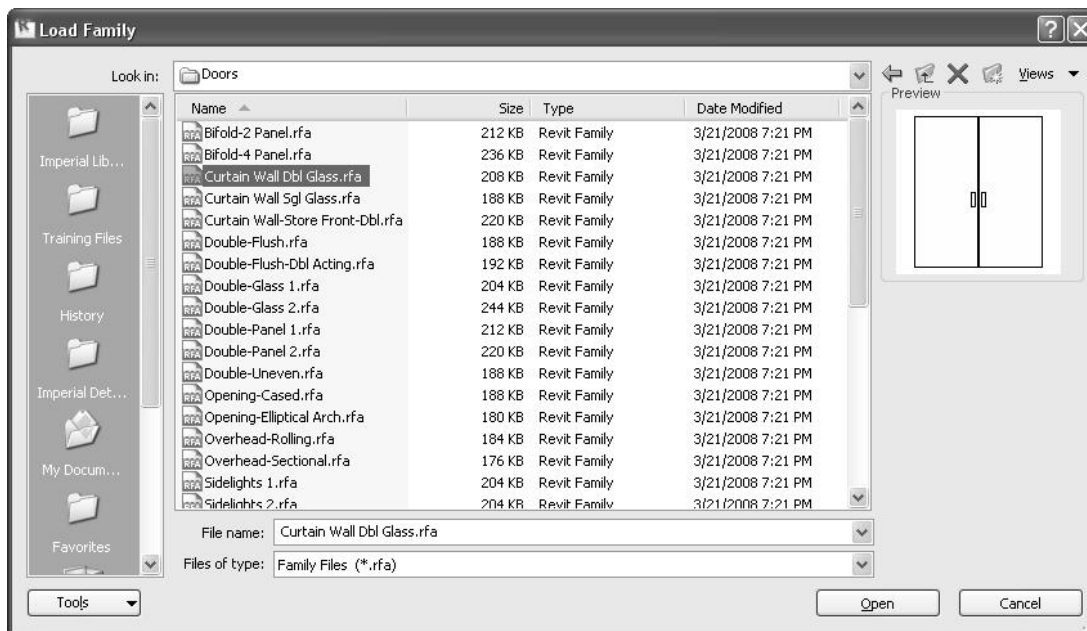

Figure 3-5.2 Door groups on hard drive
Each file represents a Family; next you will load four door Families into your project (Figure 3-5.2).
4. Select **Curtain Wall Dbl Glass.rfa**, and then click Open. (Figure 3-5.2)